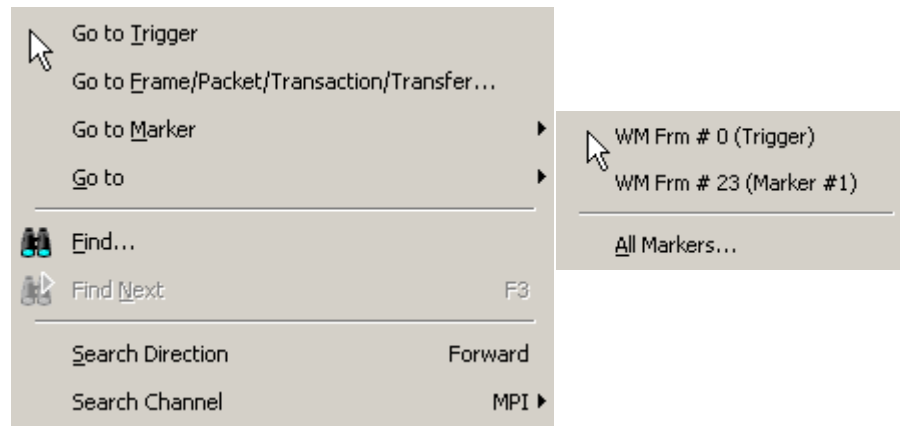

Figure 5.3 Selecting Go to Marker
Step 1 From the Search menu, select **Go to Marker** (Figure 5.3).